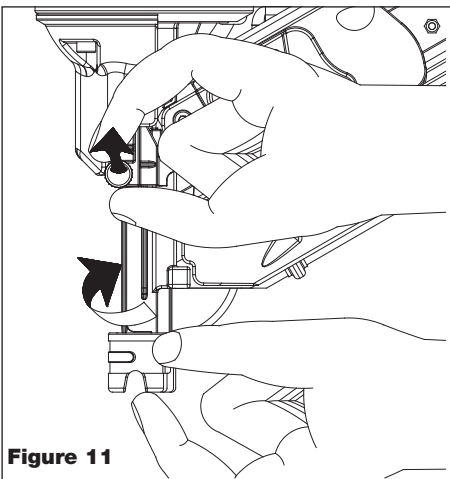

Figure 11
2. Pull red pin out. Twist Work Contact Element (WCE) 1/4 turn as shown. Release red pin. See Figure 11.